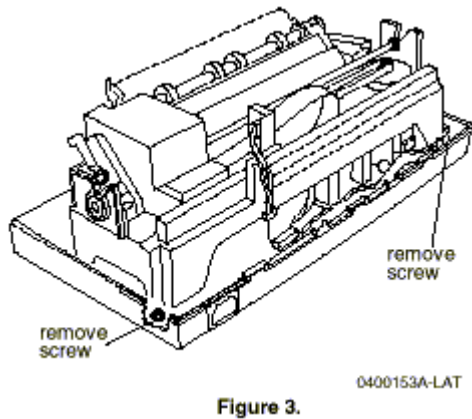

Figure 3.
8. Remove the screws (2) from the two front corners of the Paper Feed / Carriage Assembly (Figure 3).